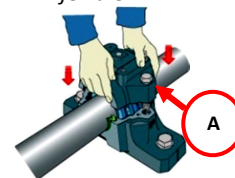

Figure 13 Bracket closure
- PUT THE HOUSING LID ON THE OTHER CONJUGATE HALF AND TIGHTEN THE BOLTS, FIGURE 13, DETAIL A;
- LOOSEN AND REMOVE THE BOLTS OF THE HOUSING BEARING, FIGURE 13 DETAIL A;